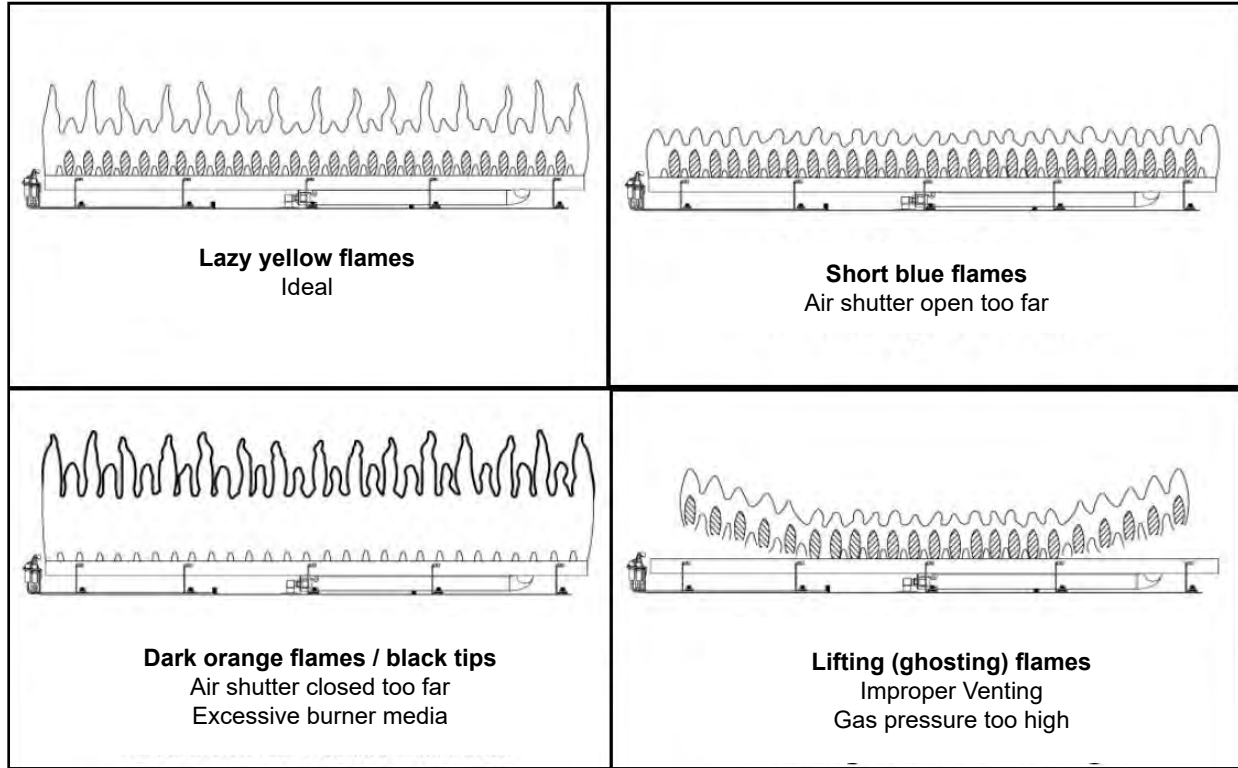
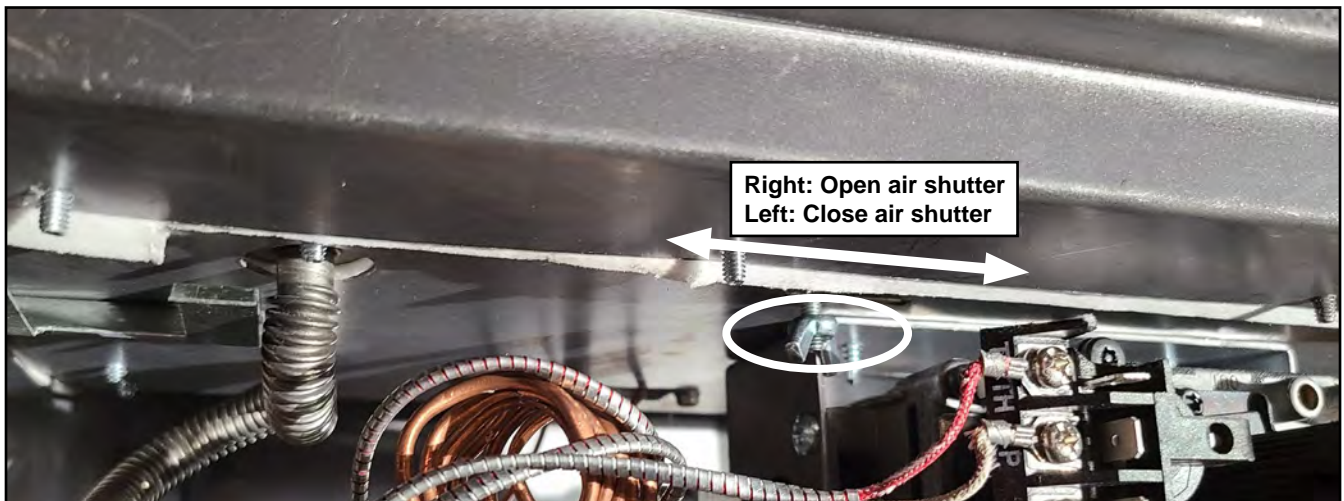

Figure 20.5.01:
Figure 20.5.02:
- Inspect and ensure the lighting of the main burner occurs within 4 seconds of the main gas valve opening. Flames should match those shown in **Figure 20.5.01**.
The 22-DVIM22LN-1 includes an air shutter located underneath the firebox of the fireplace which may be used to adjust the primary air to achieve the ideal flame as shown in **Figure 20.5.01**. To adjust, loosen the wing nut securing the air shutter in place as shown in **Figure 20.5.02**. To open the air shutter and increase air flow to the burner, pull the adjuster to the front of the fireplace. To close the air shutter and decrease air flow to the burner, push the adjuster to the back of the fireplace.